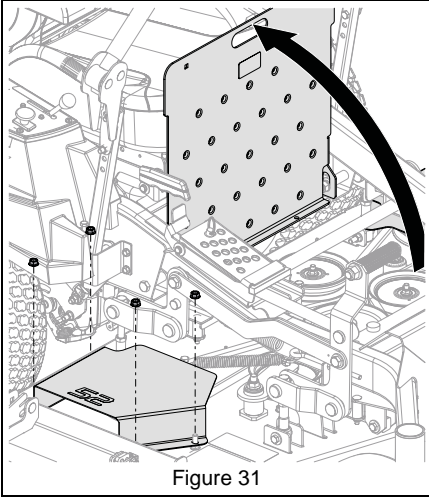

Figure 31
3. Remove hardware securing belt covers to deck and remove belt covers. See Figure 31.